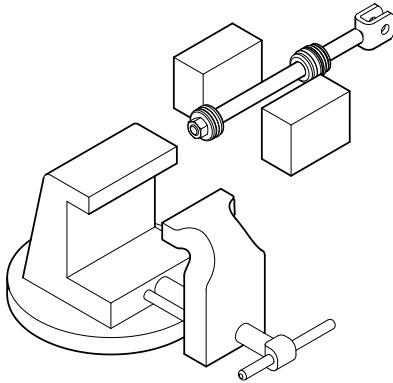

Figure 4-2, Cylinder Shaft
6. Clamp the rod assembly in a soft jawed vise on the wrench flats, not on the rod surface. If the rod does not have wrench flats use two pieces of wood on both sides of the rod to prevent scarring. (Figure 4-2)